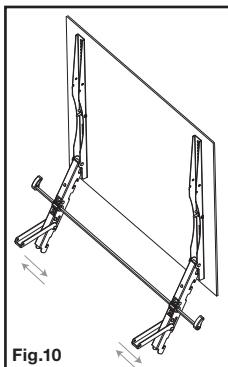

Fig.10
6. Place the opened arms over the back of your display. Adjust the arms along the length of the tilt adjustment rod so that they line up with the mounting holes on back of your display. The hinges on the arms should be located towards the bottom of the display (see Fig.10).